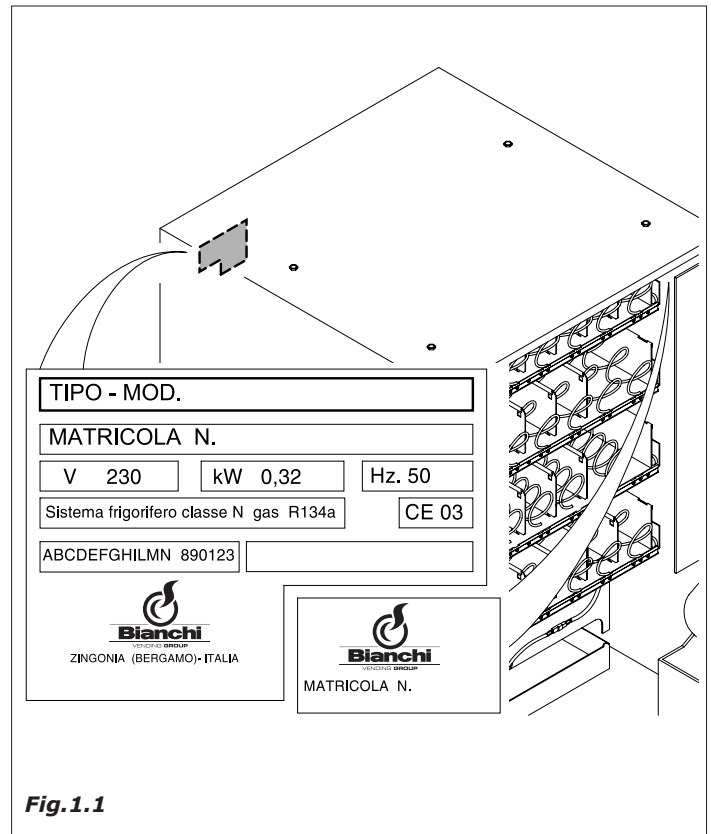

Fig.1.1
- The data registered on the serial number label (Fig.1.1)